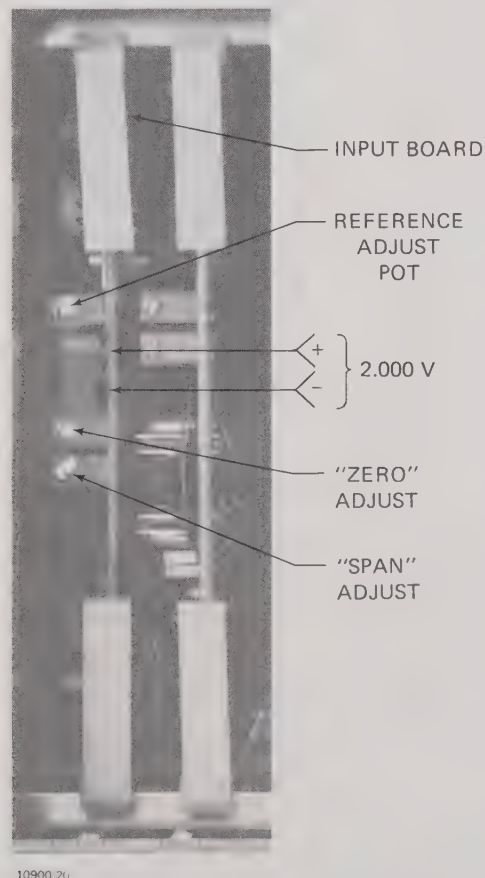

Figure 5.3 - Input Board Calibration
- 5.2.1 Input Board Calibration. Refer to Figure 5.3. Calibration of the Input Board is recommended whenever the board has to be replaced. The following procedure is recommended:
3. Referring to Figure 5.3, adjust the "Reference Adjust" pot to obtain a reading of 2.000VDC at the "+" and "-" test points.